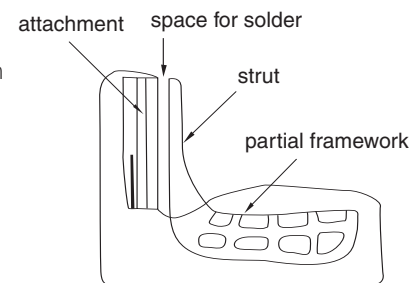

Fig. 22
- Draw the components off the model and invest them in soldering investment (Fig. 22).